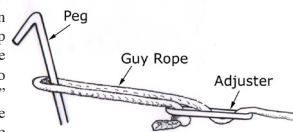

Figure 5
8. Unravel the guy ropes and loosely peg out each one ensuring that they are all pegged directly in line with the seam or pole to which they will apply tension and support. Once this is achieved tighten the adjusters so that equal tension is applied to each guy point (see figure 5).